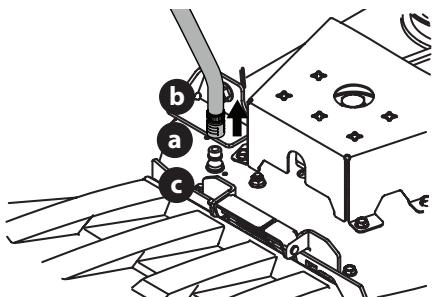

Figure 24
- Pull back the lock collar (a) of the nozzle adapter (b) and push the nozzle adapter onto the deck wash nozzle (c). Release the lock collar to lock the nozzle adapter on the deck wash nozzle (Figure 24).